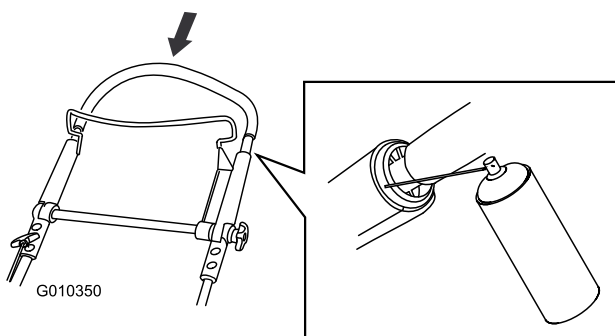

Figure 22
2. Push the upper handle fully down and spray the inner plastic surface of the outer handle (Figure 22).